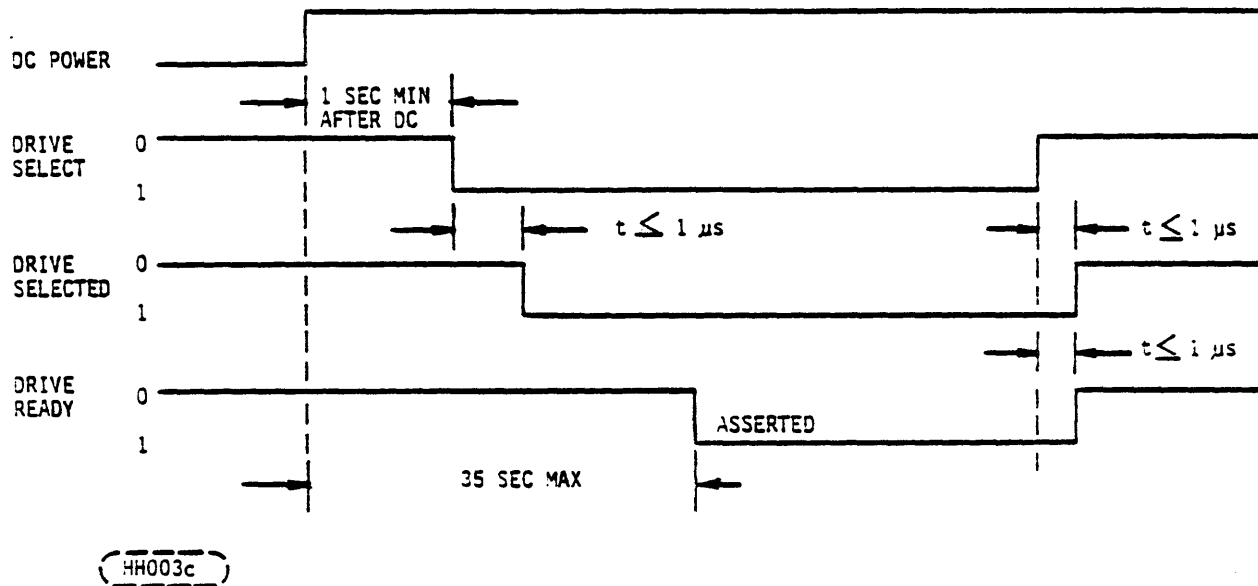

FIGURE 12. POWER TURN ON AND DRIVE SELECTION
5. When the DRIVE SELECT lines are asserted, a head change will occur per Section 11.1.2 requiring a delay before a read or write operation can be initiated. Refer to Figure 12.